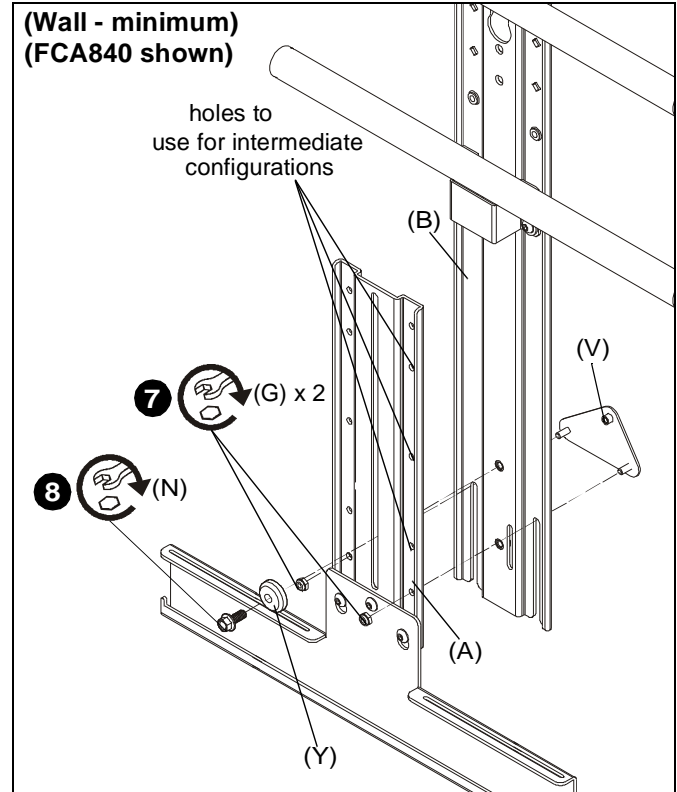

**Figure 5**
- (For **maximum extension**) Use #10-32 x 3/8" button head cap screw (P) and small washer (J) to secure adapter plate (V) to main bracket (B). (See Figure 5)
- (For **maximum extension**) Use two #10-24 lock nuts (G) to secure upright bracket (A) to main bracket (B) and adapter plate (V). (See Figure 5)